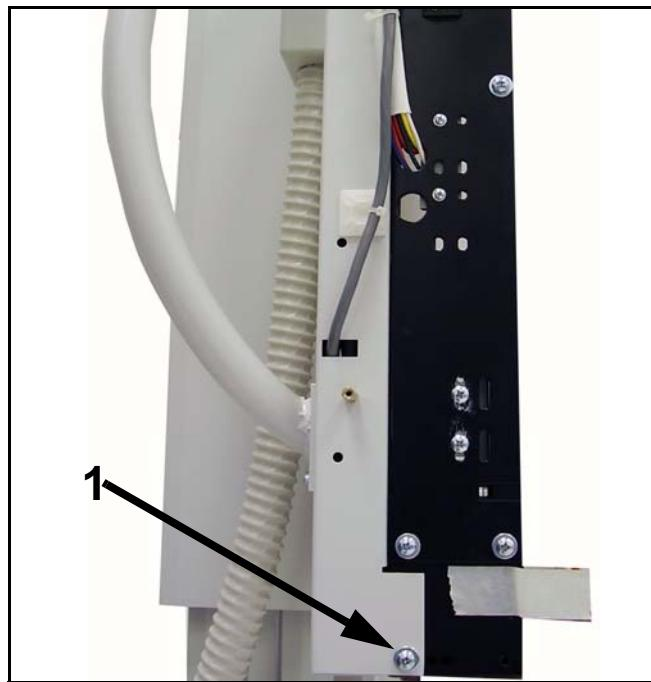

Figure 5-13. Bucky Left Side Screw
- 19** Unscrew bucky left side screw (1 in Figure 5-13).